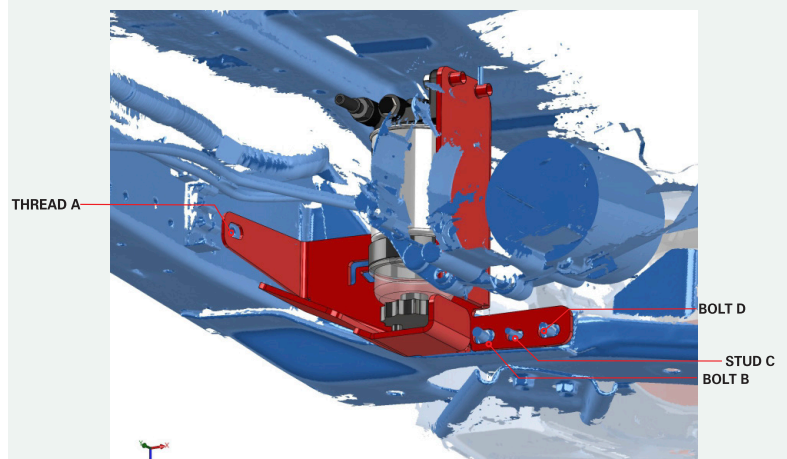

FIGURE 3B
- 4 Locate FB9805FC bracket to vehicle as shown in FIG. 3B